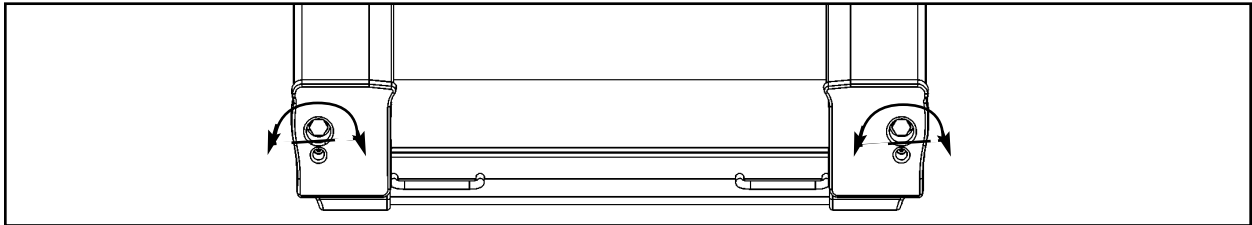

Figure 1
- A.** Use a 3/4" socket wrench to turn each bolt 1/2 turn clockwise. See Figure 1.